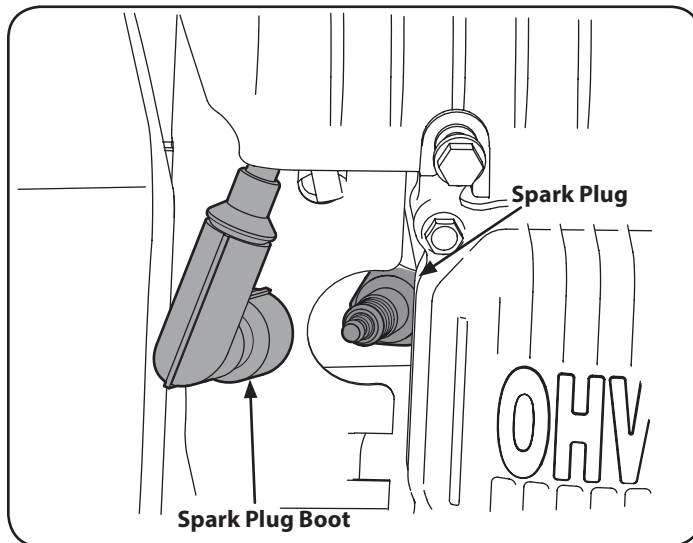

Figure 19
1. Remove the spark plug boot and use a spark plug wrench to remove the plug. See Figure 19.